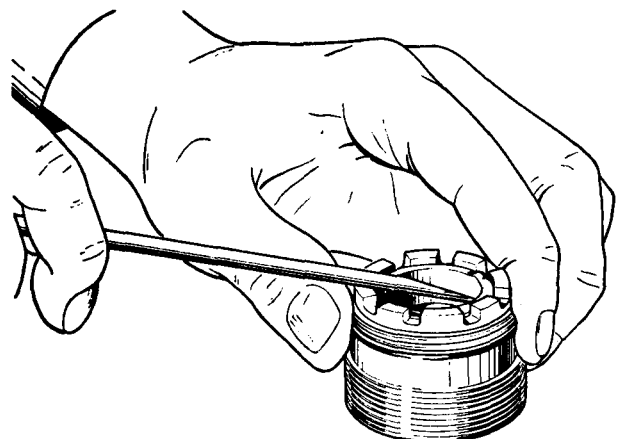

FIG. N30 REMOVING THRUST BEARING RETAINER
1. Remove the thrust bearing retainer with a screwdriver (see Fig. N30), taking care not to score the needle bearing bore, discard the thrust bearing retainer.